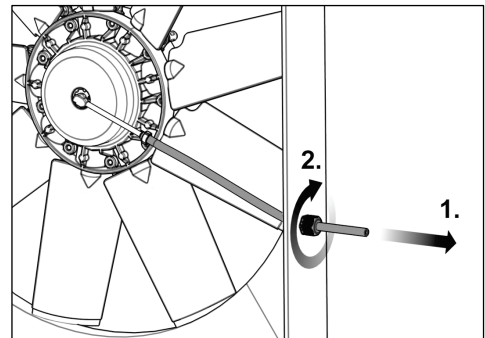

Fig. 32
24) Tension the pressure hose (see Fig. 32 step 1) so that the air intake assembly can rotate slightly (max. 15°).
25) Secure the pressure hose using the strain relief (see Fig. 32 step 2).